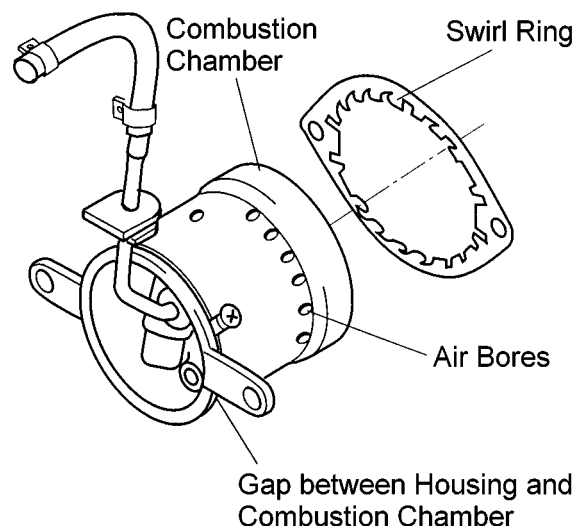

Fig. 5-5 Visual Inspection, Burner Assembly
- The combustion chamber (Fig. 5-5) should not be damaged (e.g. dented). A combustion chamber with dents may cause insufficient combustion or coking of the heater.
- The air bores (Fig. 5-5) in the combustion chamber must not be coked. Coked air bores may cause a no-start or insufficient combustion.
- The screwed connection of the housing and combustion chamber must be secure (Fig 5-5).
- Housing and combustion chamber (Fig. 5-5) must be connected securely without any play (check by slight movement of fuel pipe).
- The gap between housing edge and combustion chamber upper edge (Fig. 5-5) must be equal around the entire circumference.